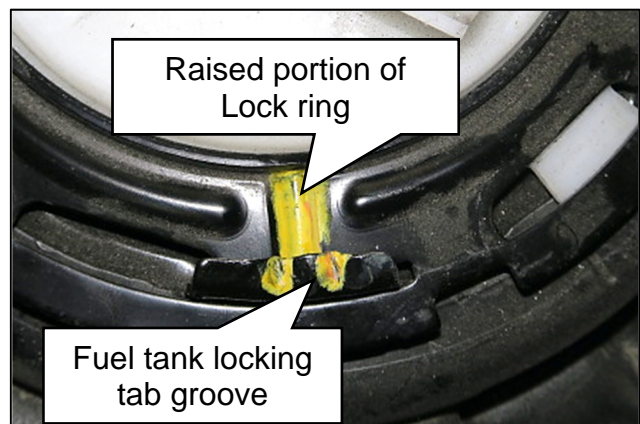

Figure 9
22. Make sure all six (6) locking tabs are aligned within the lock ring.
23. Rotate the fuel pump lock ring until the raised portion of the lock ring is engaged into the groove of the fuel tank locking tab (Figure 9).